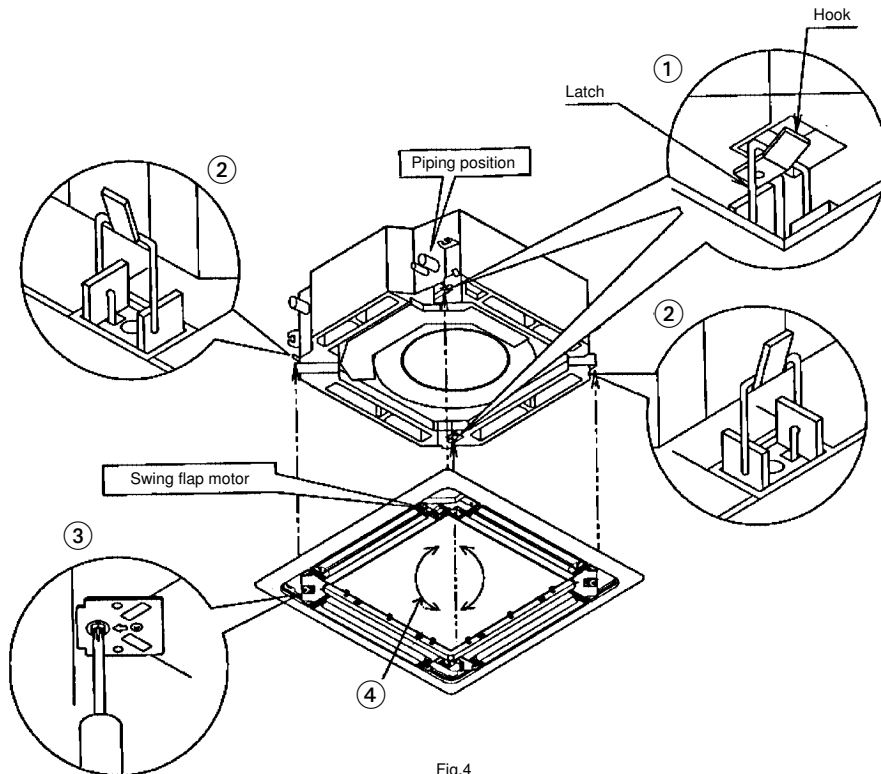

Fig.4
- (1) Set the decoration panel to the indoor unit body by matching the position of the swing flap motor of the decoration panel to the piping position of the indoor unit as shown in Fig. 4.
- (2) Install the decoration panel
- ① Temporarily install the decoration panel to the indoor unit by hanging the latch on the opposite side of the swing flap motor of the decoration panel to the hook of the indoor unit body. (2 positions)
- ② Temporarily hang the remaining 2 latches to the hooks on the sides of the indoor unit.
- ③ Screw all 4 hexagon head screws located right beneath the latches in approximately 5 mm. (Panel will rise)
- ④ Adjust the decoration panel by turning it to the arrowed direction in Fig. 4 so that the ceiling opening is completely covered.
- ⑤ Tighten the screws until the thickness of the sealing material between the decoration panel and the indoor unit body reduces to 5-8 mm